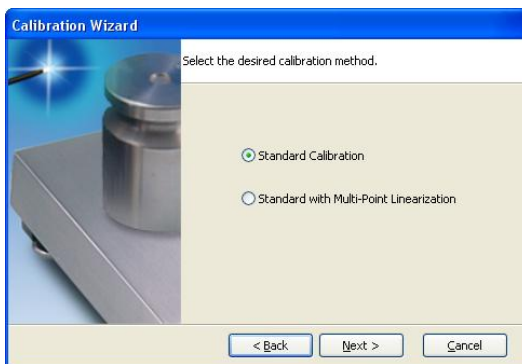

Figure 4-3. Revolution Calibration Wizard Display
- On the first Calibration Wizard display (see Figure 4-3), select whether you are performing a standard (zero and span) calibration or a multi-point linear calibration. Click the *Next* button to continue.